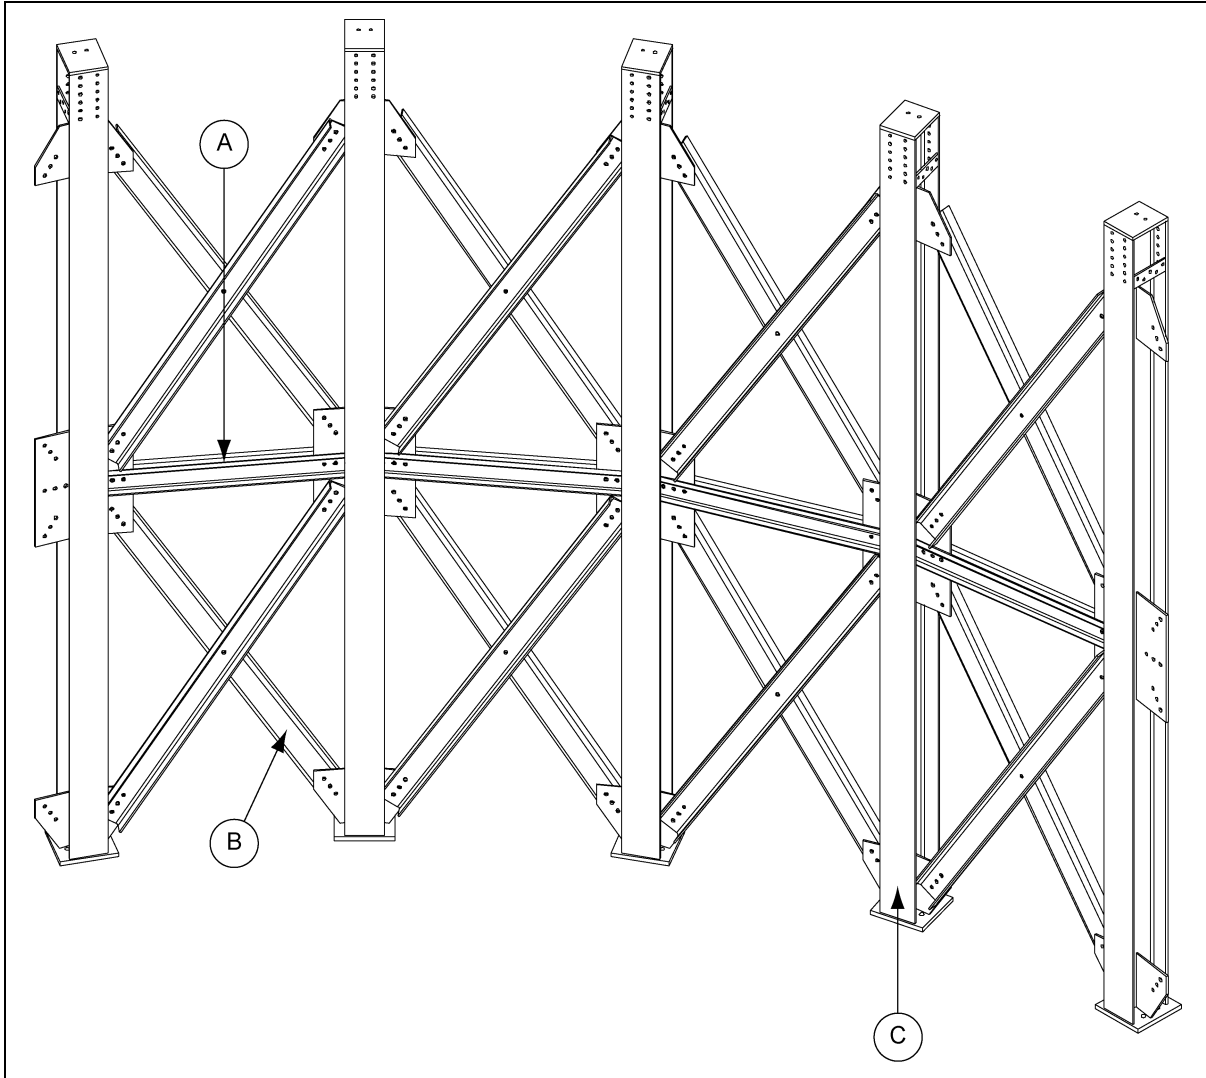

Figure 7B *Bracing Erection*
Using 1/2"-13 x 1-1/2" hex head bolts for all brace connections with a washer on each side. Fasten the diagonal and horizontal braces to the support columns as shown in Figure 7B. The horizontal brace consists of two (2) formed channels placed back to back. Connect each set of diagonal braces at their intersection. *Do not tighten bolts until after hopper panels are installed to allow alignment.*